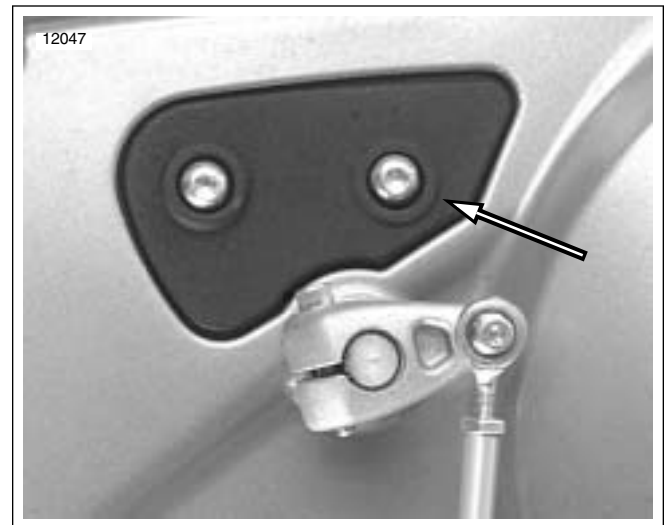

Figure 1-32. Primary Chain Inspection Cover
See Figure 1-32. Measure primary chain tension through the inspection cover opening. Adjust primary chains not meeting vertical free play specifications.
1. See Figure 1-32. Remove two fasteners with captive washers and primary chain inspection cover with gasket from primary cover.
4. See Figure 1-32. Install primary chain inspection cover and **new** gasket to primary cover using two fasteners with captive washers. Tighten fasteners to 84-108 **in-lbs** (10-12 Nm).